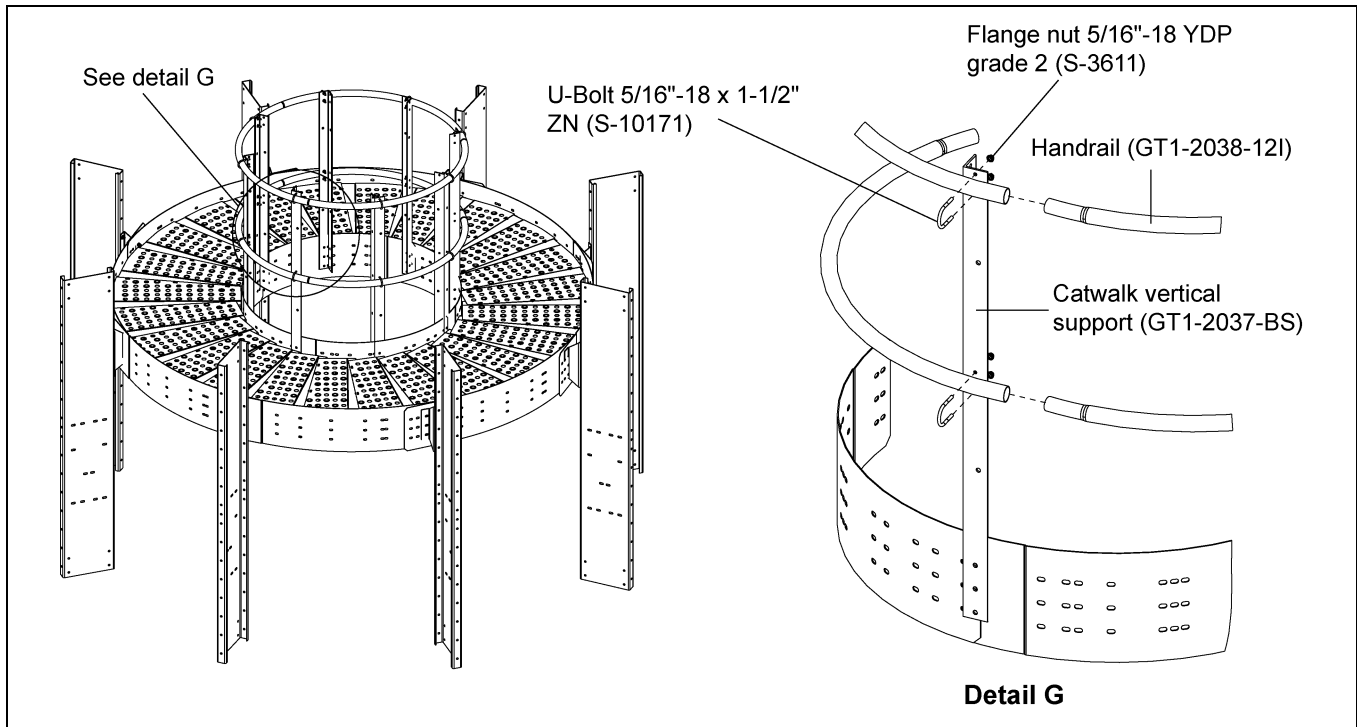
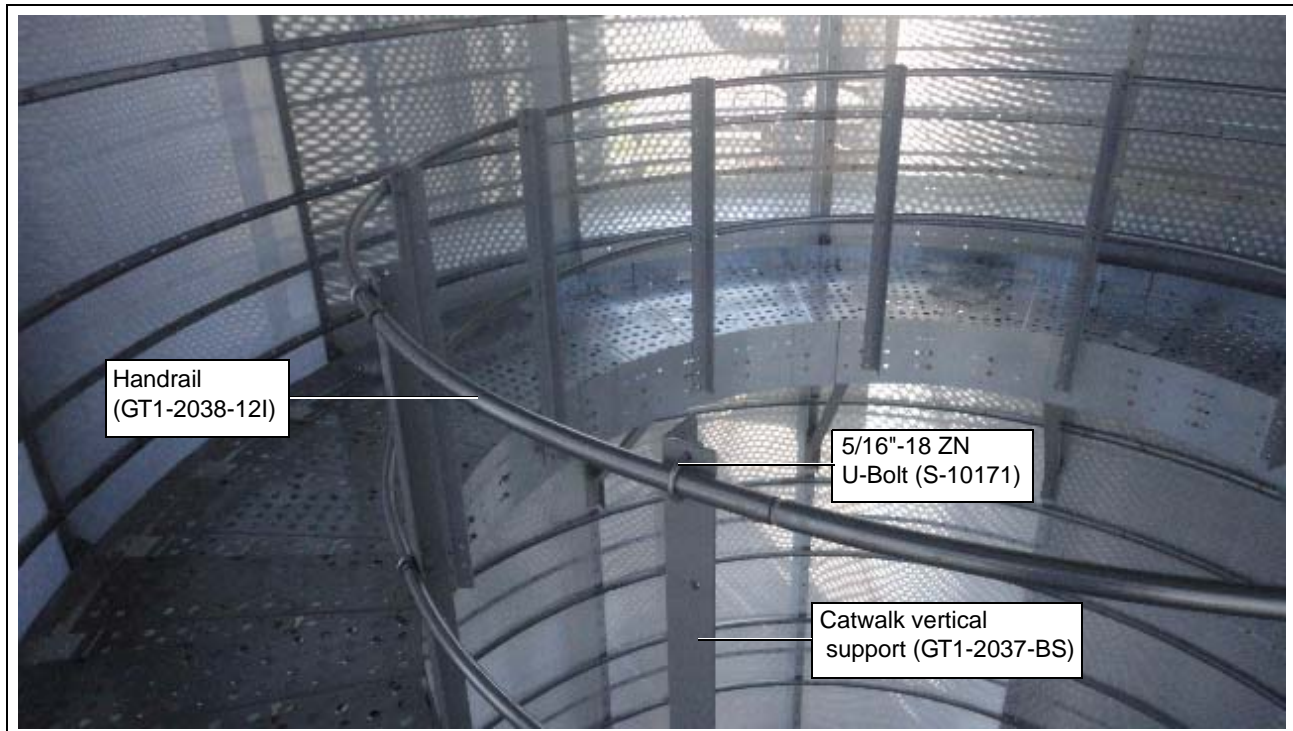

Figure 5L
Figure 5M
1. Install the handrail (GT1-2038-12I) to the catwalk vertical support (GT1-2037-BS) using 5/16"-18 ZN U-bolts (S-10171) and 5/16"-18 YDP grade 2 nuts (S-3611) to tighten the handrail with vertical post. (See Figure 5L and Figure 5M.)